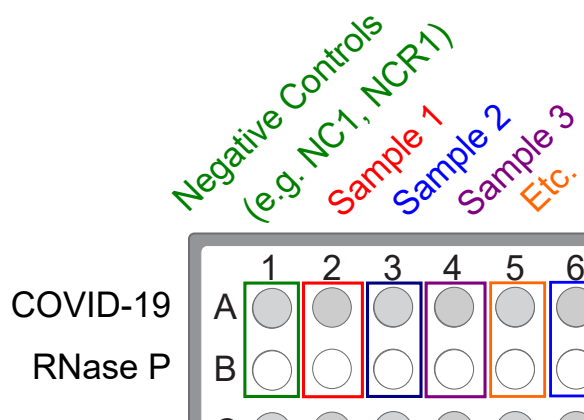

Figure 2 Paired sample and Negative Control wells for each assay
- b. Unseal the extraction plate, then add the Negative Control from the single well of the extraction plate to wells A1 and B1 of the reaction plate, as shown in Figure 2 on page 54.